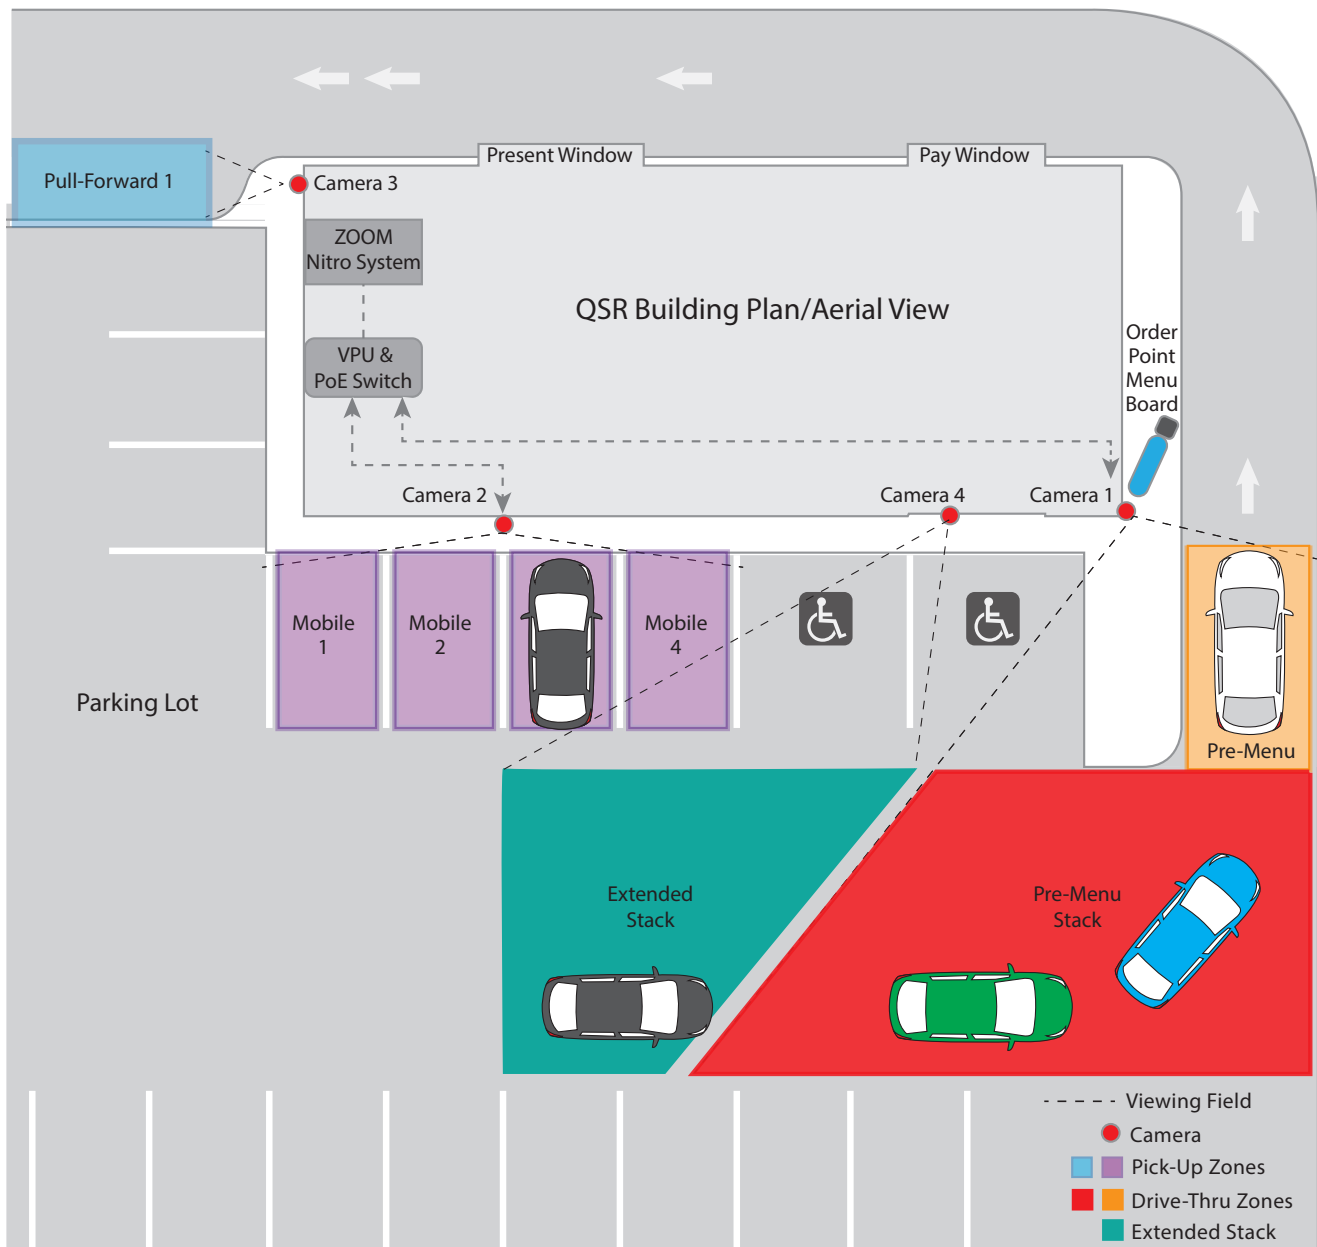

Fig. 1
Cameras are used to detect and track vehicles in a drive-thru or in a mobile space. Fig 1 shows an example of multiple possible locations.
Extended Stack: (The teal area in Fig. 1.) This is an area behind the pre-menu stack that extends it.
Pre-Menu Stack: (The red area in Fig. 1.) This is an area behind the pre-menu where customers can potentially exit the lane and drive off if they decide not to wait.
Pre-Menu: (The orange area in Fig. 1.) This is the area where a single car next in line is waiting just before reaching the order point.
Captured lanes: These lanes have a physical boundary along their length, preventing cars from pulling out and driving off. These boundaries can be curbs, walls, railings, or hedging. (Fig. 1 has curbs). Captured lanes are also narrow enough so that a car cannot overtake the car in front of it. The only way a car can escape a captured lane is by reversing out of it.
These are the Blue and Purple areas in Fig. 1. Cameras should be installed to see as many mobile or pull-forward spaces as possible, up to four mobile spaces per camera (eight maximum with two cameras), up to two full-forward spaces (two maximum), or a combination of both. Cameras should be positioned to view the front or back of these pick-up zones, as side views can be problematic due to obstructions. For example, a large (tall) vehicle might block the camera's view of a detection zone if the zone is far from the camera with other available parking spaces in between.
- If cars turn as they first move through the Pre-Menu Stack and into the Pre-Menu zone (as in Fig. 1), it is best to position the camera to see cars from the side and the front.